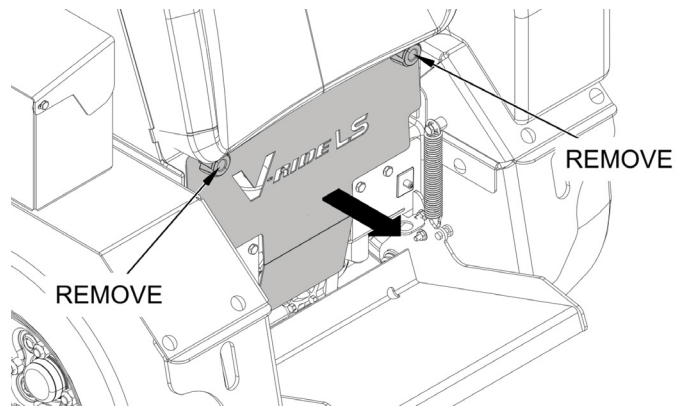

Figure 6-11. Foot Guard Removal
1. Remove the two (2) knobs securing the foot guard to the machine. See Figure 6-11.